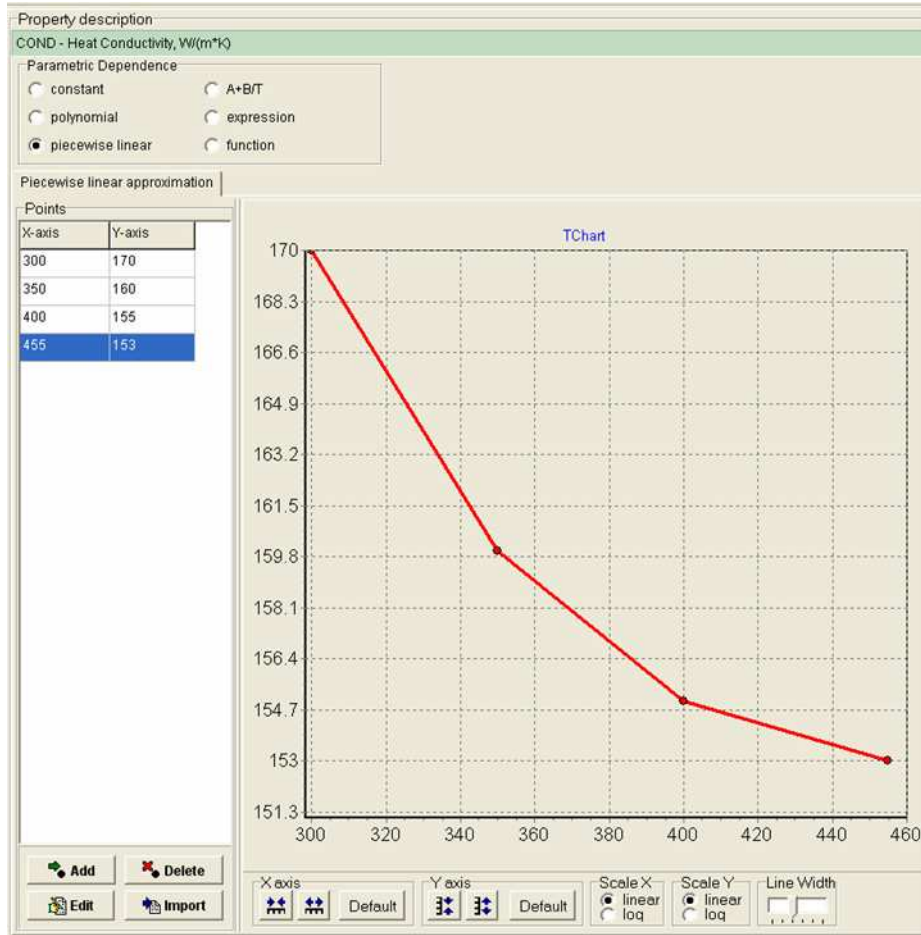

Fig. 49
- **Piecewise Linear** (see Fig. 49). For a piecewise linear specification of the selected material characteristic, the *Property Description* section contains the following items: